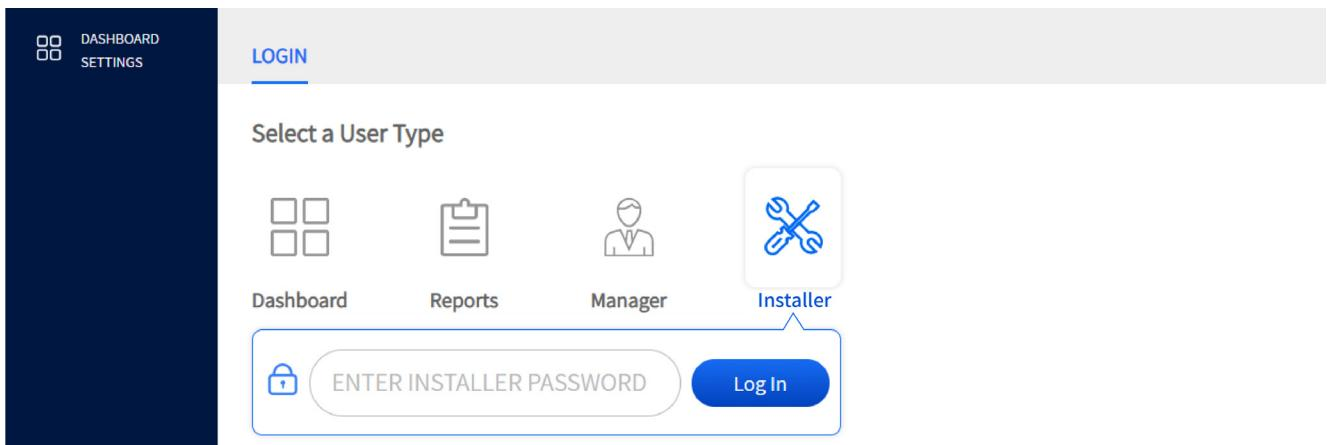
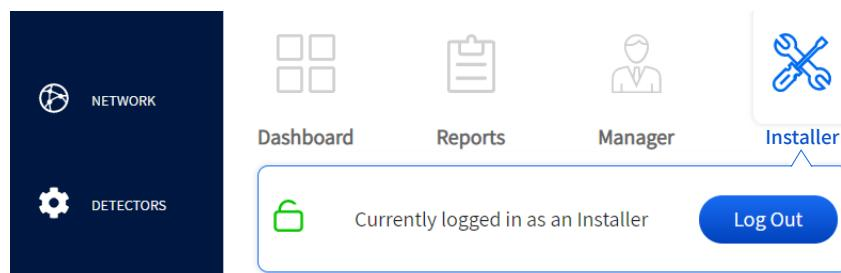

Fig. 9.1
Fig. 9.2
**Example:** Fig. 9.1 shows the Installer option selected. Once logged in, they are shown as the current user (Fig. 9.2). Clicking on “Log Out” logs the current user out and causes the PASSWORD screen to disappear.